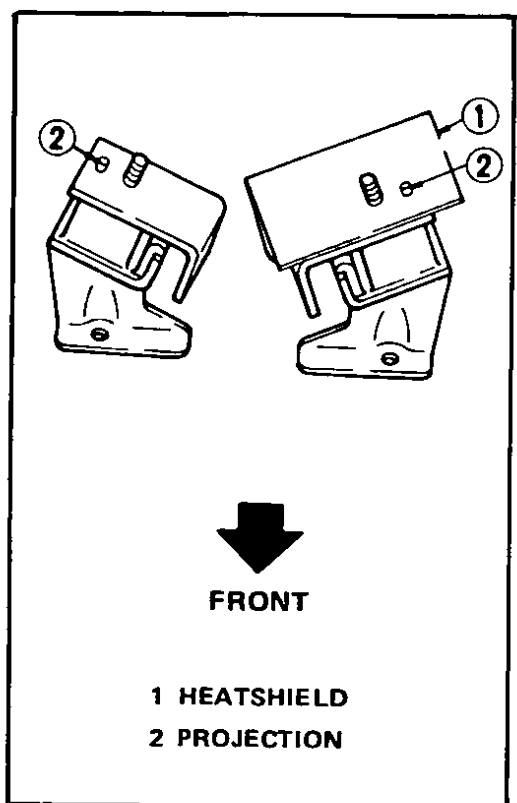

Fig. 129 Typical front engine mount
- 5 Note the position of the mounting insulators when removed and be sure to install them in the same position, Fig. 129.